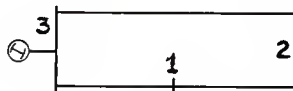

Figure 13: Power System # 7.
7. A diagram for a simple electric power system is shown in Fig. 13(3). P.U. line impedances, and P.U. values of real power (P), reactive power (Q), voltage magnitude (V), and voltage phase (θ) at each bus are given in Table 13.